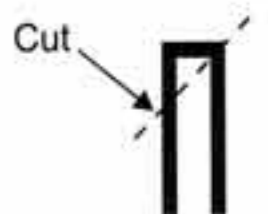

Figure 76A
❑ Step 37. Cut one end of the 7" piece of tubing at a 45° angle as shown in Figure 76A. Install the uncut side of the tubing to the forward fitting on the top of the fuel tank (38).